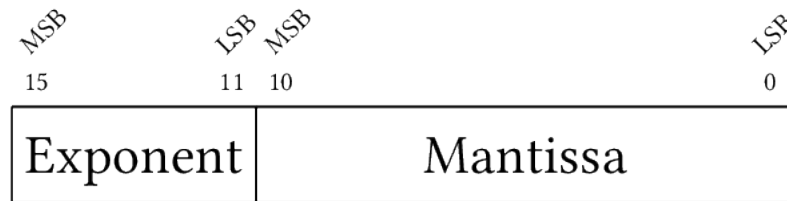

Fig. 3.1: The PMBus Linear data format
All physical quantities (except output voltage, which is discussed below) are expressed in the 16-bit PMBus Linear data format (LINEAR11, Fig. 3.1), instead of the (somewhat more complex) Direct format PMBus also supports. An 11-bit mantissa (Y) and a 5-bit exponent (N), expressed in 2's complement, form a floating-point number X according to  $X = Y \cdot 2^N$ .